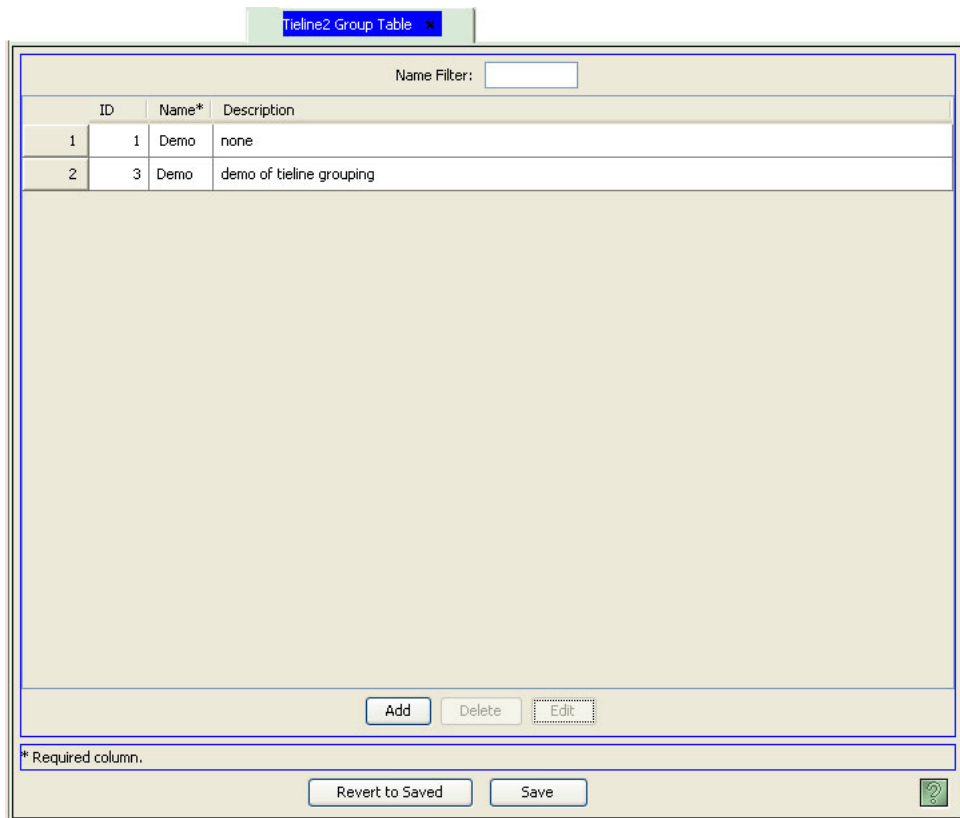

Figure 16-25. Tieline Group Table
- 2 From the Navigation area, select the ‘Views’ pane and then ‘Tieline Group’. The ‘Tieline Group’ table appears, as shown in Figure 16-25.